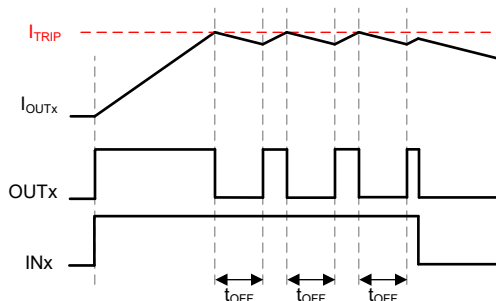

Figure 7-4. Inductive Load Connected to ground, fixed off-time current chopping
- For the scenario shown in Figure 7-4, with $INx = 1$, the low-side MOSFET is turned on for t_{OFF} duration after I_{OUT} exceeds I_{TRIP} . After t_{OFF} , the high side MOSFET is again turned on till I_{OUT} exceeds I_{TRIP} again.